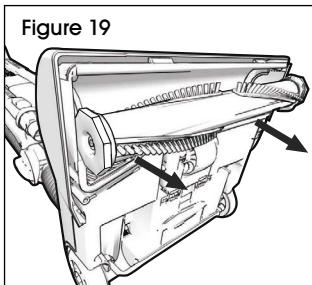

Figure 19
- Grasp both ends of the brush roll and pull out of the machine. (See Figure 19)